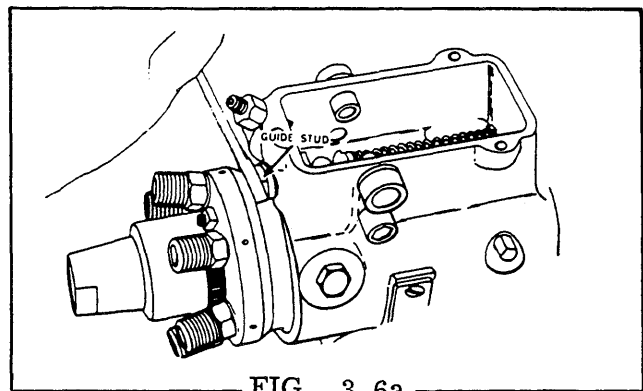
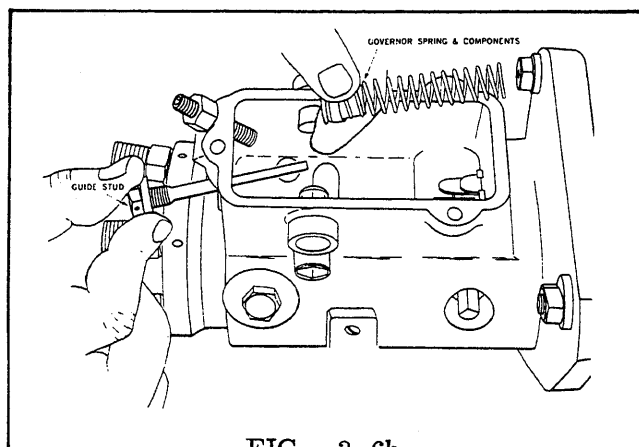

FIG. 3.6a
FIG. 3.6b
STEP 6 Loosen the guide stud (Fig. 3.6a). Hold the governor spring and spring retainer firmly between the thumb and forefinger. Lift out the governor spring components and guide stud (Fig. 3.6b).